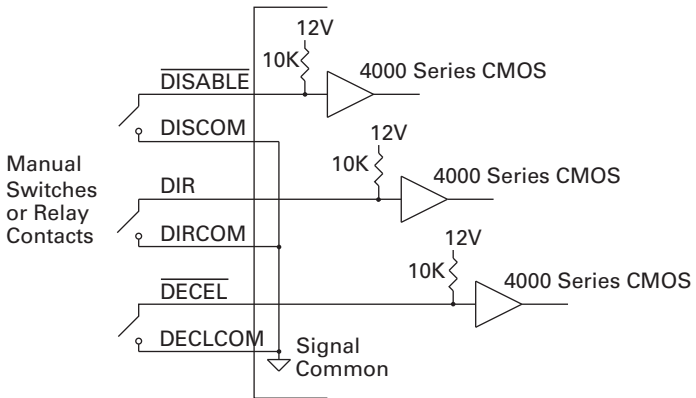

Figure 8 – Manual Switch and Relay Control Inputs.
Mechanical switches or relays can be used to switch the control inputs. Figure 8 shows a schematic representation of manual or relay switched inputs.
1. Turn input power OFF and set the speed potentiometer to ZERO (fully counterclockwise). If a Disable switch is used, close the switch. If a Direction switch is used set it for the desired direction of rotation. If a Deceleration switch is used, open the switch. See Figure 8.